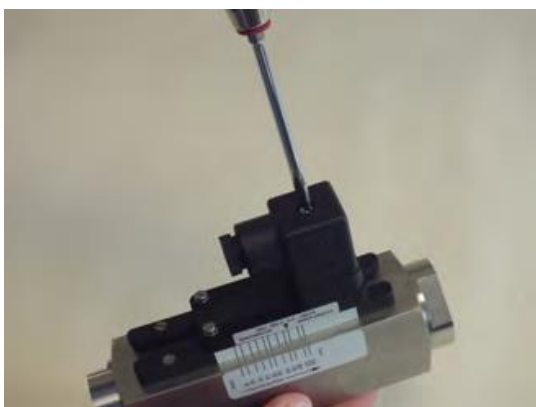

Fig. 59: Loosen female socket
1. ► Loosen the fixing screw of the female socket (Fig. 59) with a flat-bladed screwdriver.